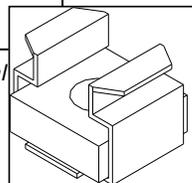

Figure 23: Square Bolt
There are two (2) leveling legs and they can be found inside the manual bag. Each leveling leg consists of a long bolt, a hex nut, a washer, and a square bolt with clip (see Figure 23). For installation of the leveling legs the unit should be on its back and a $\frac{1}{2}$ " wrench is required for adjustments.